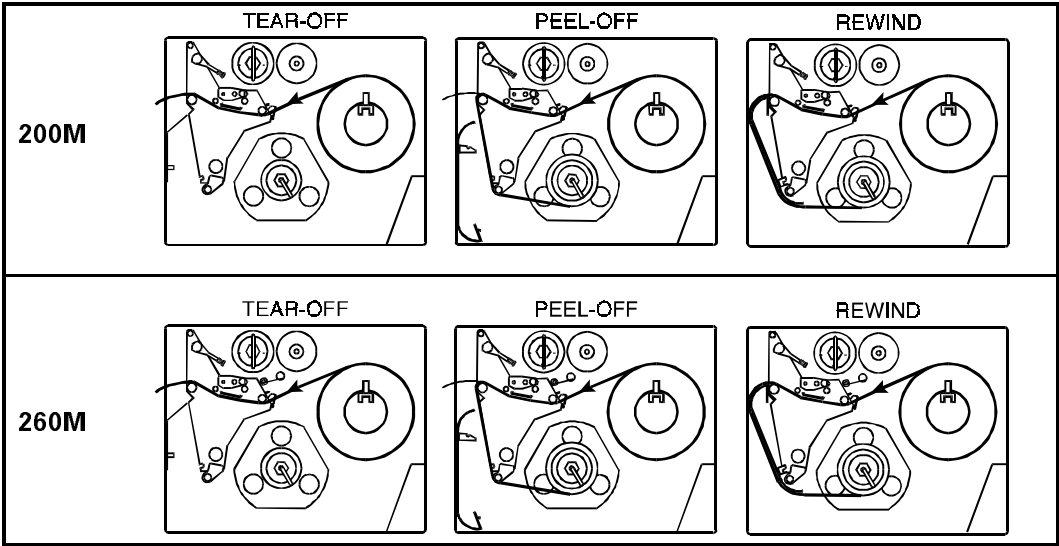

Figure 2.4 Roll Media Loading Diagrams
To load media, move the Printhead Locking Lever to the OPEN position. Refer to Figures 2.4, 2.5, and 2.6. When the media is loaded, close the printhead by moving the lever on the upper printhead mechanism to the CLOSED position.
Roll media may contain labels of a fixed length with gaps in-between or it may be formed as one continuous length with no gaps (see *Continuous Media*.) Both types of roll media mount inside the printer in the same manner. To load roll media, refer to Figure 2.4 and/or 2.5 and do the following.
6. Route the media as shown in Figures 2.4 and 2.5, wind it 1-2 times around a 3" core.
2. Load media as shown in Figures 2.4 and 2.5.